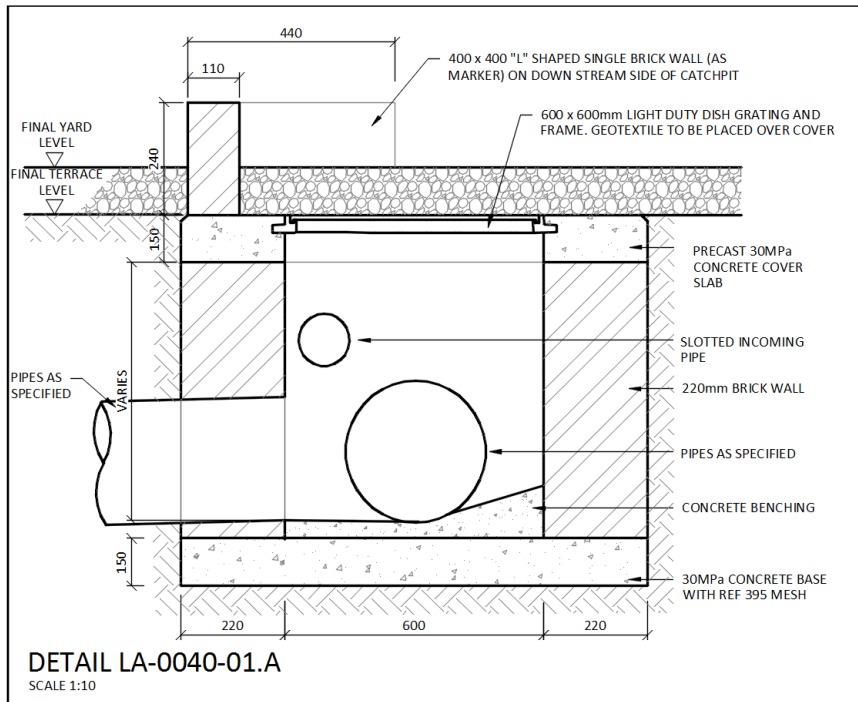

Figure 22: Typical Catch-pit Detail
- Figure 22: Typical catch-pit detail.